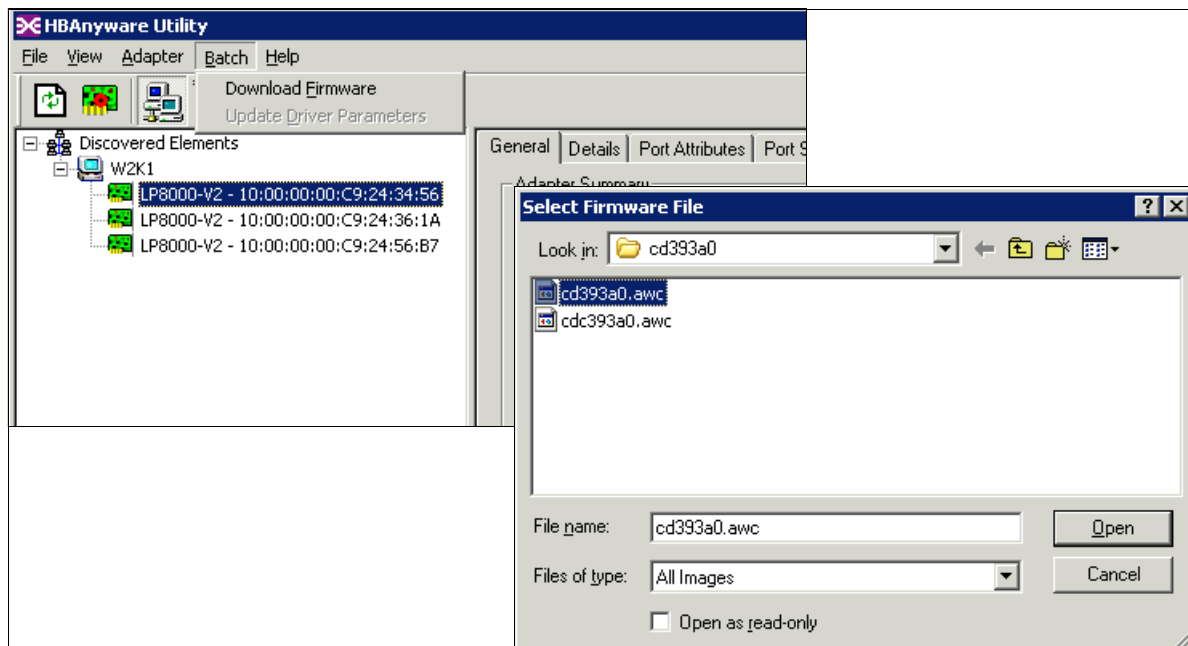

Figure 7-30 HBAAnyware: Download firmware
2. In the discovery-tree (left pane), click the HBA entry you want to update. In the menu bar, click **Batch** and select **Download Firmware** (see Figure 7-30).
3. A Select Firmware File window appears (Figure 7-30). Select the firmware you want to update and click **Open**.